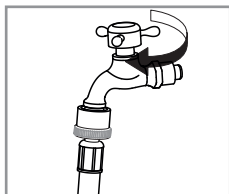

Fig.19
- Turn off the water tap. ( Fig.19)